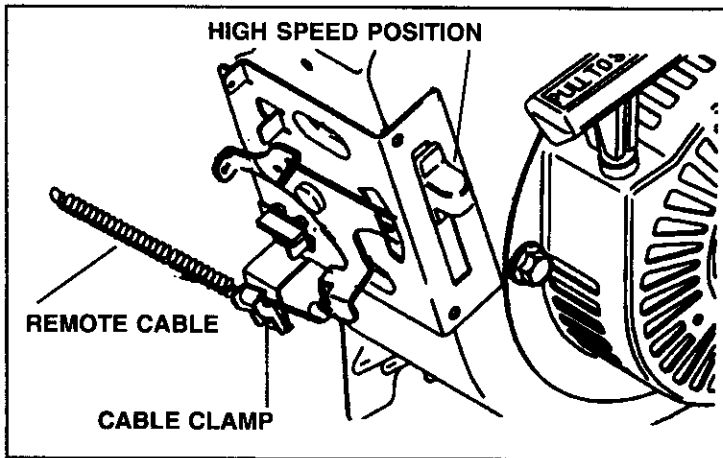

Figure 6
A. TO REMOVE AND INSTALL FILTER(S) (see Figure 6):
B. TO SERVICE FILTER(S) (see Figure 6):
IN TEMPERATURES 32°F (0°C) AND BELOW: (See figure 6)
② REMOTE CONTROL (see Figure 6):